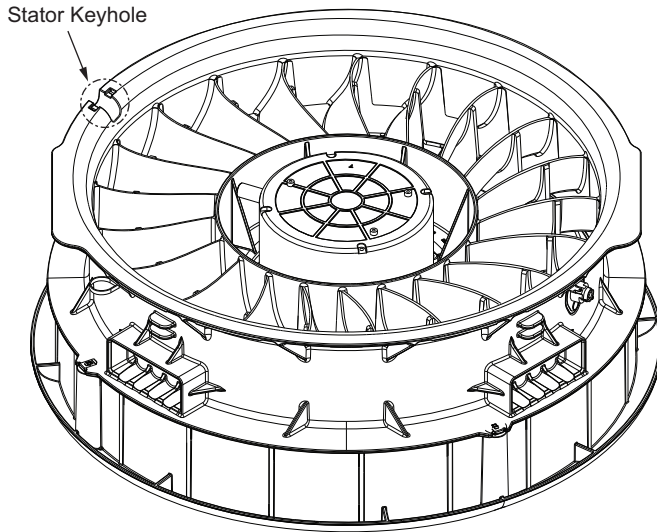

Fig. 29 — Stator Keyhole Location
3. Fit motor wire harness into keyhole feature on the side of the stator and pull wire harness out prior to fixing the motor to the stator. See Fig. 29.